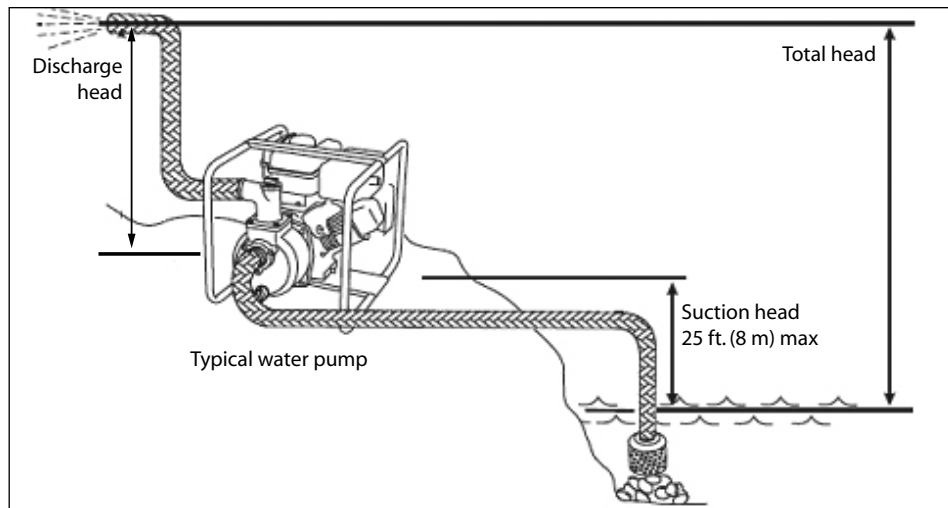

FIGURE 1
Use this pump for water only, where the vertical suction head from the water level is 25 ft. (8m) or less. Head refers to the height of a column of water that can be delivered by the discharge of the pump (Figure 1). Suction head (or suction lift) is the vertical distance between the center of the pump and the surface of the liquid on the suction side of the pump. Discharge head is the vertical distance between the pump's discharge port and the point of discharge. Total head is
- LOCATION:** For permanent installation, put the pump in a clean, dry, and ventilated place (Figure 1).